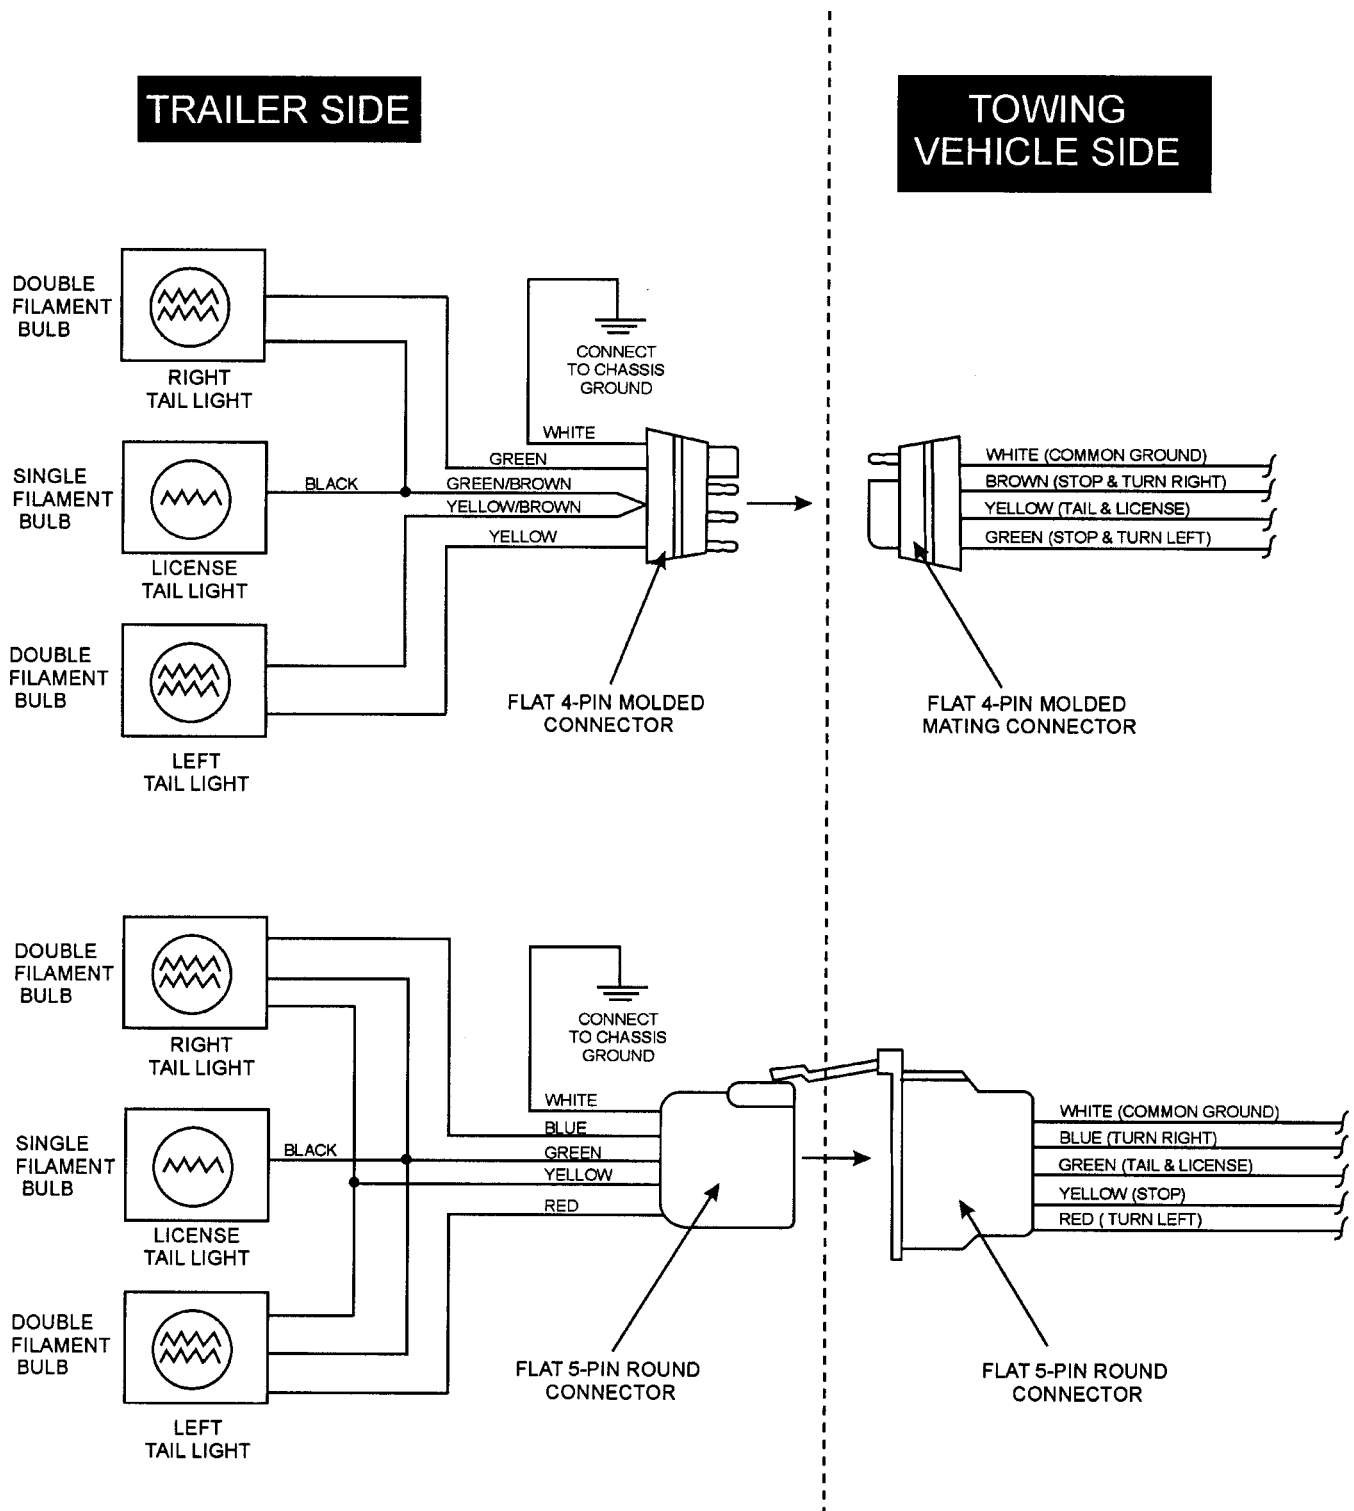

**Figure 5. Wheel Lug Nuts Tightening Sequence**
2. Torque all lug nuts in sequence. See Figure 5. **DO NOT** torque the wheel lug nuts all the way down. Tighten each lug nut in 3 separate passes as defined by Table 4.